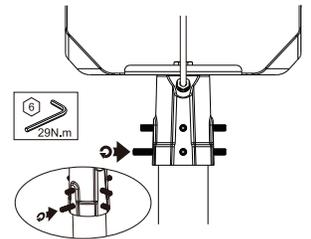

Fig. 17
4. Secure slip fitter to pole by tightening all set screws (Fig. 17).